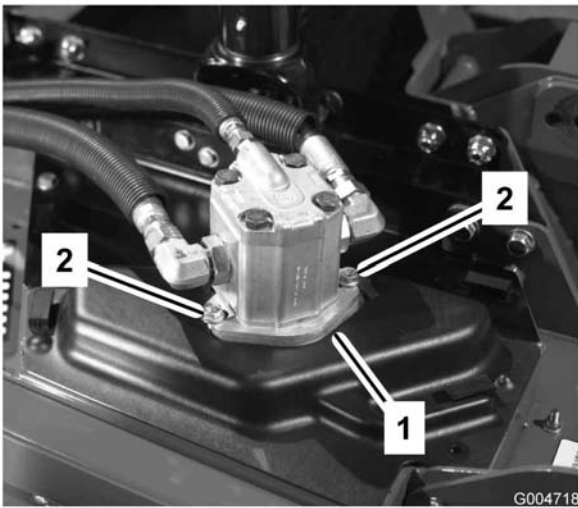

Figure 66
4. Remove the bolts securing the hydraulic motor to the cutting unit (Figure 66). Lift the motor off of the cutting unit and lay it on top of the cutting unit.